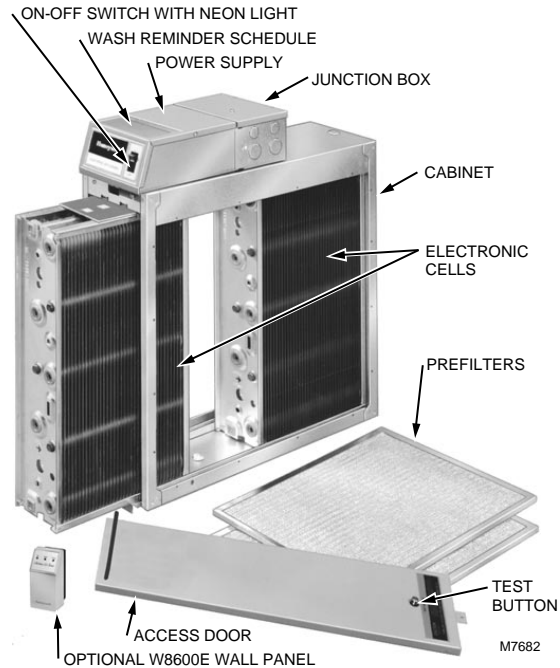

Fig. 14. Components of the F50E Air Cleaner (2-cell model shown).
- Check that all components are included. The electronic air cleaner is shipped assembled. See Fig. 14. The unit consists of: